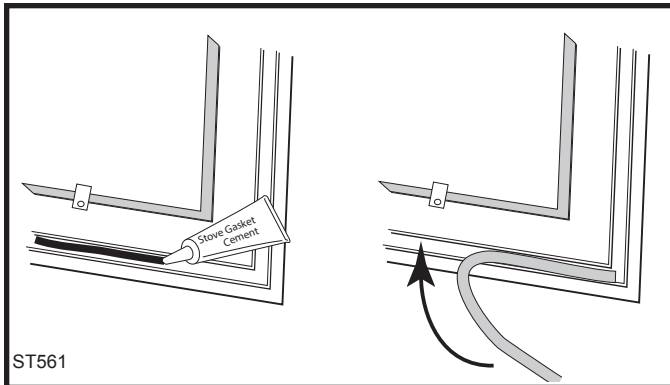

Fig. 46 Lay a bead of gasket silicone or cement then press gasket in place.
5. Lay an unbroken 1/8" (3 mm) bead of silicone or cement in the newly-cleaned channel. (Fig. 46)
6. Starting at one end, press the gasket into the channel. (Fig. 46) Ensure a good joint where the gasket meets before trimming any excess. Do not overlap the gasket ends or leave ends with ragged edges.